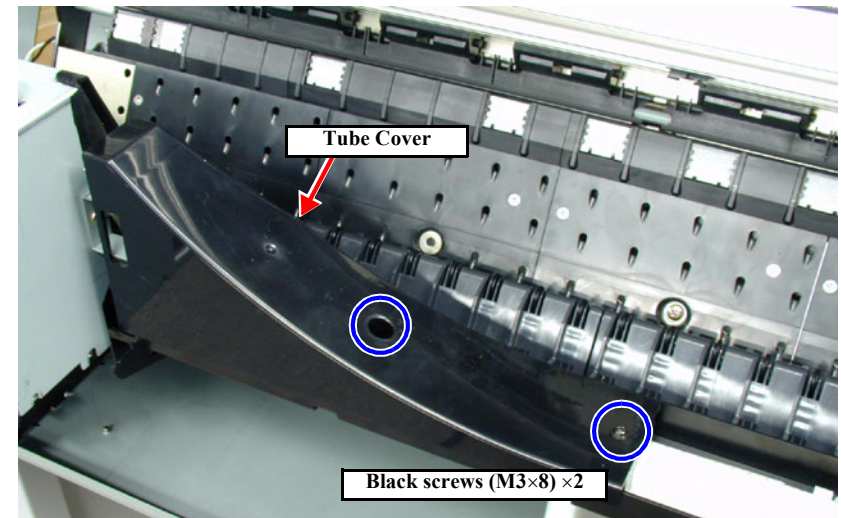

Figure 4-63. Ink Tube Cover Removal
6. Remove two black screws (M3×8) securing the Ink Tube Cover and remove the cover. (See *Figure 4-63*)
4. Remove two screws (CPP: M3×8) securing the Ink Tube Cover and remove the cover. (See Figure 4-63)